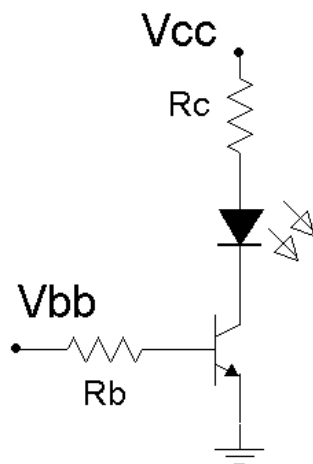

Figure 4.2
2. Consider the saturating switch of Figure 4.2 using  $V_{cc} = V_{bb} = 5$  volts,  $R_b = 4.7$  k and  $R_c = 220$ . Calculate the base and collector currents and record them in the first row of Table 4.2 (theory). As the circuit is in saturation, the theoretical  $V_{CE}$  is close to zero and may be found on the transistor data sheet via the  $V_{CE}/I_C$  saturation graph. Record this value in the first row of Table 4.2 as well.
3. Build the saturating switch of Figure 4.2 using  $V_{cc} = V_{bb} = 5$  volts,  $R_b = 4.7$  k and  $R_c = 220$ . Measure and record the base and collector currents, and record the collector-emitter voltage in the first row of Table 4.2 (experimental). Also compute and record the deviations between theory and experimental results.
13. Simulate the circuit of Figure 4.2 and record the currents and voltage in Table 4.5.
2. The circuit of Figure 4.2 is stated to be a saturating switch. How do the data of Table 4.2 confirm this statement?